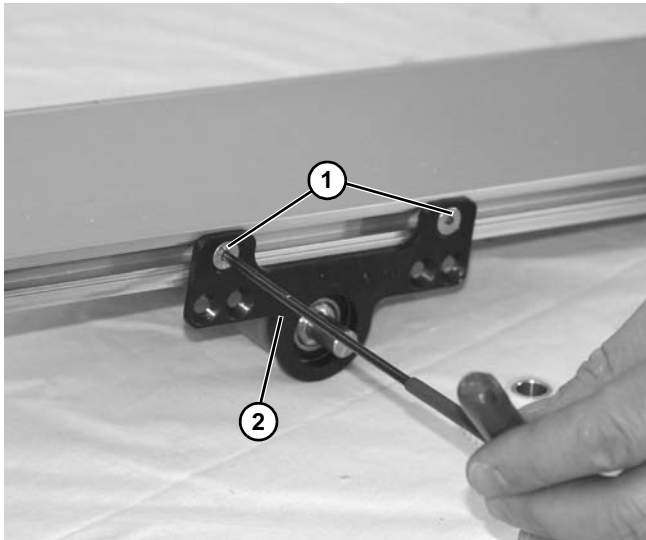

Figure 41
4. Install two screws (**Figure 41, item 1**) onto each side of pinch plate (**Figure 41, item 2**) to secure assembly onto conveyor. Leave loose until mid drive module is assembled and aligned properly.